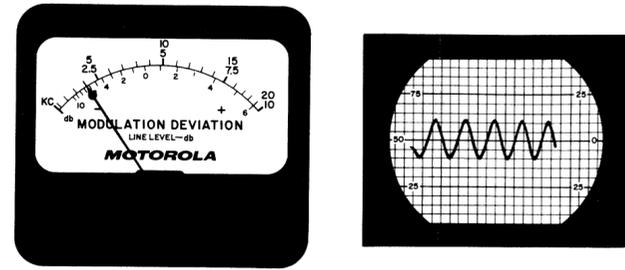

Figure 1.
e. Adjust the vertical gain of the oscilloscope so that the total recovered audio pattern occupies some convenient height, e.g., four small squares (figure 1).